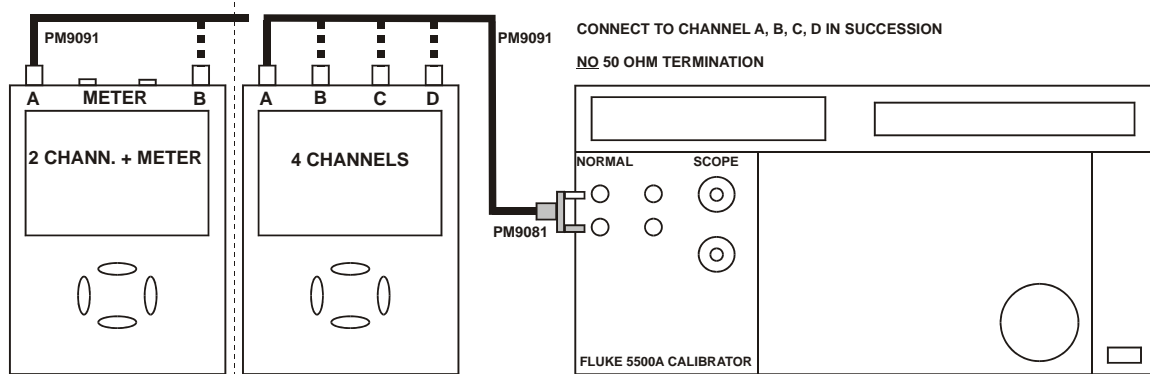

Figure 4-3. Test Tool Inputs A, B, C, D (A, B) to 5500A Normal Output
1. Connect the Test Tool to the 5500A as shown in Figure 4-3. The vertical channels A, B, C and D (A and B) are checked in succession so that there is one waveform on the screen at a time. This assures the highest possible readout accuracy.